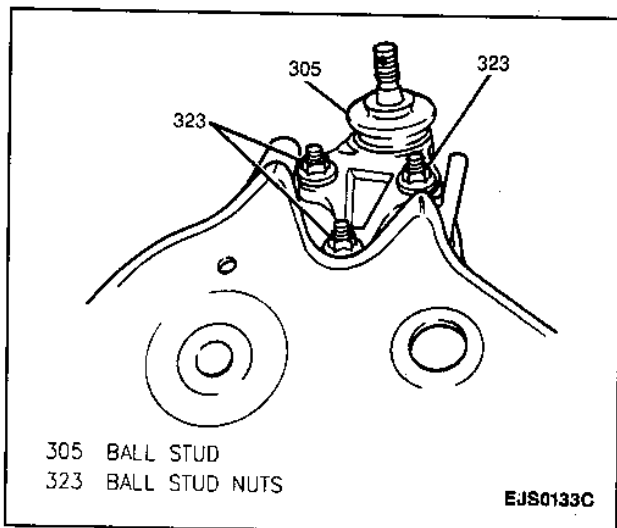

Figure 13—Ball Stud Mounting
12. Ball stud from control arm by removing three ball stud nuts and bolts (Figure 13).
1. Ball stud to control arm; secure with three nuts and bolts (Figure 13).